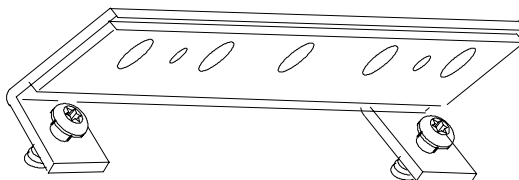

Figure 4 Install the nut plate screws
- 1 Install two chrome-plated screws about halfway into each of the two nut plates as shown in Figure 4.